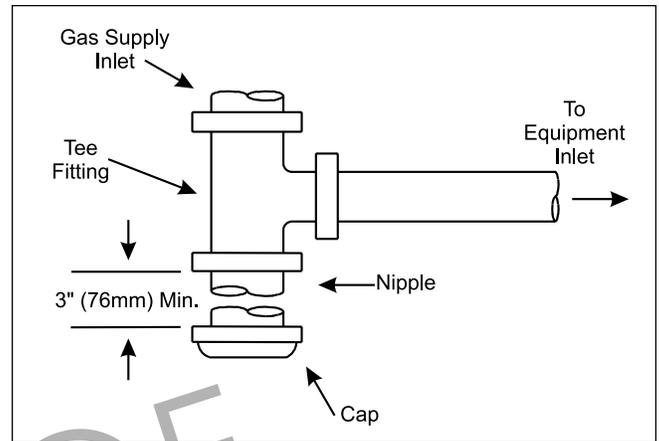

Figure 6. Sediment Trap Installation.
- A sediment trap (drip leg) must be provided ahead of the gas controls (see Figure 6). A manual gas shutoff valve must also be provided for service convenience and safety. A cap must be provided for cleaning purposes. Check the local codes.